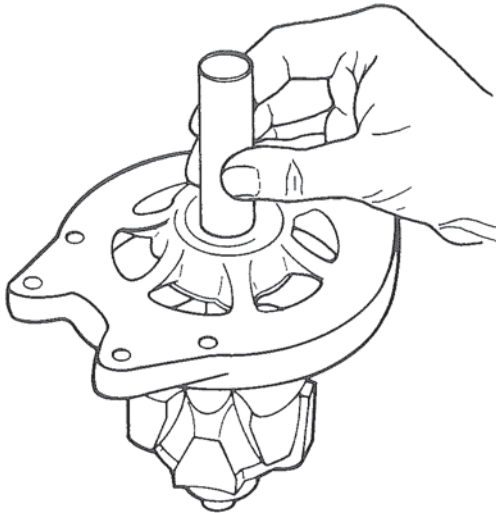

Figure 35. Bearing Installation.
2. Install snap ring and retainer cup onto rotor shaft. Use a tool that fits over the shaft against the inner bearing race and press until race seats against retaining cup. Figure 35.